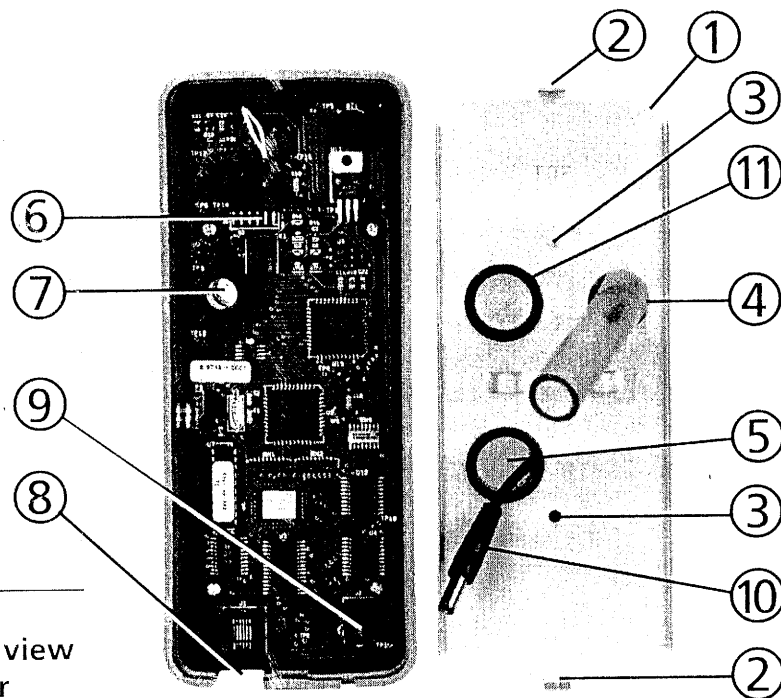
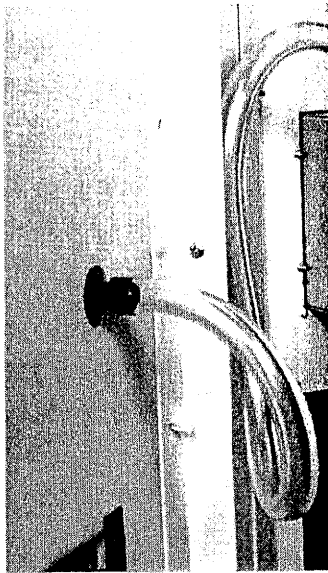

Figure 2:
Figure 3:
Table 2: Description of the inside of the monitor and the back mounting plate. Reference Fig. 2.
Installation of the monitor requires drilling holes in the fume hood to match the holes in the back plate (figure 2). A hole must also be drilled to attach the side wall adapter (figure 3).
Step 1: Locate the aluminum back plate for the monitor (figure 2).
Step 2: Use the back plate as a template to drill two holes, #37 drill bit 0.104" diameter, (figure 2) to secure the back plate to the fume hood.
Step 3: Use the back plate as a template to drill or punch one hole 7/8" diameter, (figure 2) for the side wall air hose.
Step 5: If the monitor will be connected to wiring for input/output signals through the external interface (figure 2), then use the back plate as a template to drill or punch one hole 7/8" diameter, (figure 2) to route the wires to the connector.
Step 6: Drill one hole 33/64" diameter in the side wall of the fume hood **approximately 6" behind the sash and even with the sash bottom when it is fully open**. Insert the side wall adapter from the inside of the hood and securely lock it in place with the lock ring as shown in figure 3.
Step 8: Connect the supplied air hose to the side wall adapter (figure 3). Then connect the opposite end to the flow tube on the monitor (figure 2). **Route hose as necessary to prevent kinks and bends which can affect calibration**. Attach the hose firmly to the flow tube on the monitor.
Step 9: Connect the input/output signal wiring, if present, to the external interface connector on the monitor (figure 2)
Step 10: Connect the power cord to the power jack (figure 2). The power cord may also be routed from the front side of the monitor if so desired.